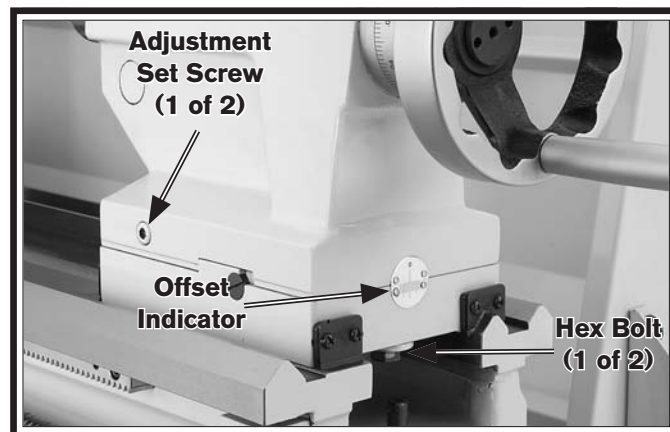

Figure 43. Tailstock offset controls.
1. Loosen the hex bolts underneath both ends of the tailstock to release the clamping pressure between the top and bottom castings (see **Figure 43**).